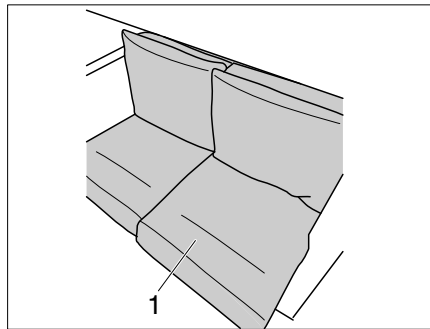

Fig. 220 Put cushion on top
The back of the seat cushion (Fig. 220,1) is reinforced by plastic.
- Put the cushion with reinforcement (Fig. 220,1) on top on the right-hand side.